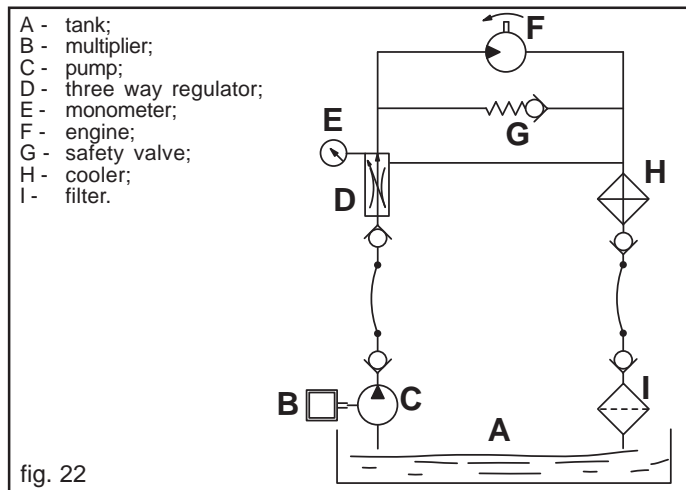

fig. 22
- Oil supply: follow the data in the table in Fig. 22.